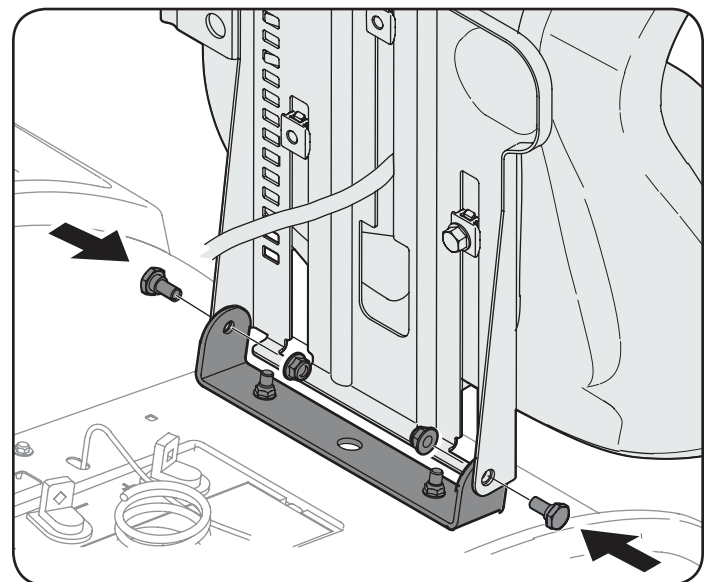

Figure 3
3. Rotate the seat into position and secure the seat into place with the previously removed shoulder screws and flange lock nuts. Be careful not to crimp or damage the wire harness while installing the seat. See Figure 3.